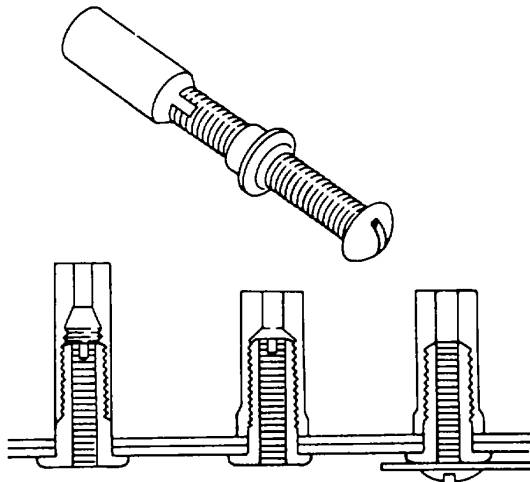

Figure 2-62. Dill Lok-Skru Fastener
c. Dill Lok-Skru. Dill Lok-Skru as shown in figure 2-62 is a cowling fastener used for quick removal and replacement.